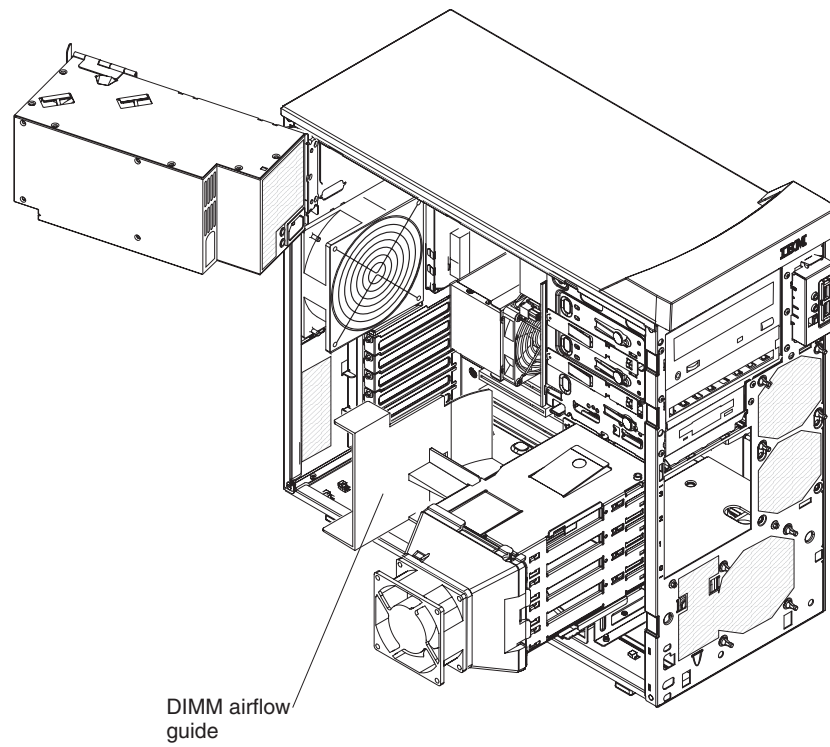

Figure 49. DIMM airflow guide
6. Press and hold the drive-cage release lever; then, rotate the drive cage completely out of the chassis until the retaining tab on top of the cage locks into place (see Figure 49).